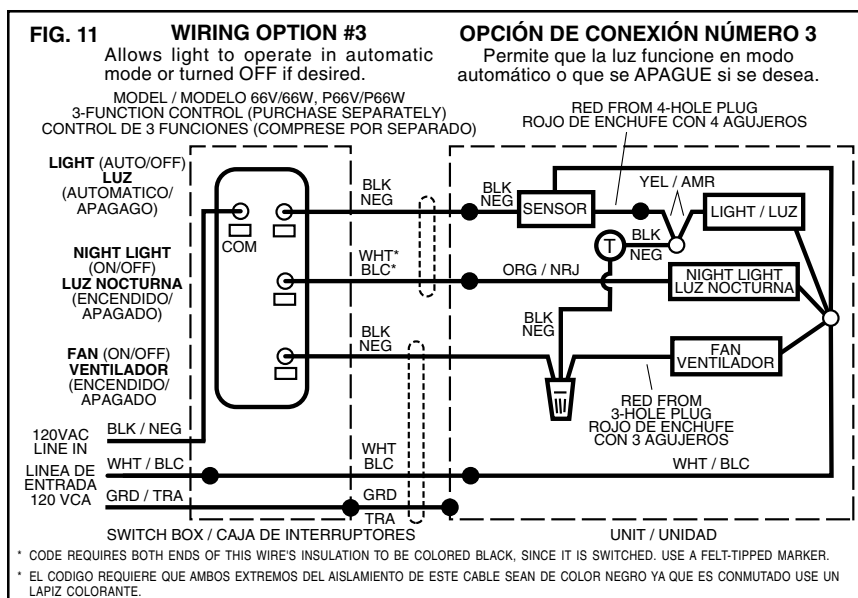

FIG. 12
2. Attach grille assembly with (2) phillips-head screws, provided. **DO NOT OVERTIGHTEN** - Damage to grille may result. (FIG. 12)
1. Coloque el cableado de la luz/luz de noche en su enchufe. (FIG. 12)